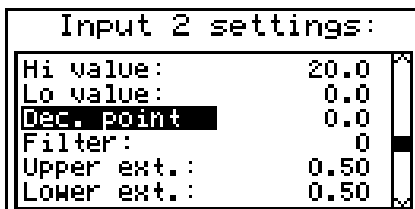

Fig. 7.21. "Inputs settings" menu (part 2)
**“Lower ext.”** Parameter defining the allowable range of input currents (Fig. 7.21).